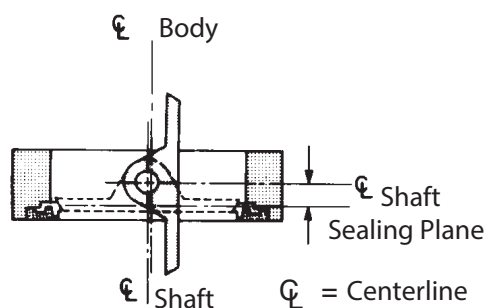

Figure 3.
One *Wafer-Sphere* valve design feature that is responsible for its superior performance is the valve's eccentric shaft design. As shown by **Figure 3**, the shaft is offset in two planes: (1) away from the valve disc center line; and (2) behind the disc sealing plane. The offset shaft design makes the disc lift completely off the seat as the valve starts to open, eliminating wear points at the top and bottom of the seat. Because the disc rotates in an eccentric arc, it operates in one quadrant only.
4. Before installing the **closed** valve in the line, be sure that the actuator is attached so that a counterclockwise rotation, viewed from above, opens the valve (**See Figure 3**). Again, fully close the valve before installing it in the line.